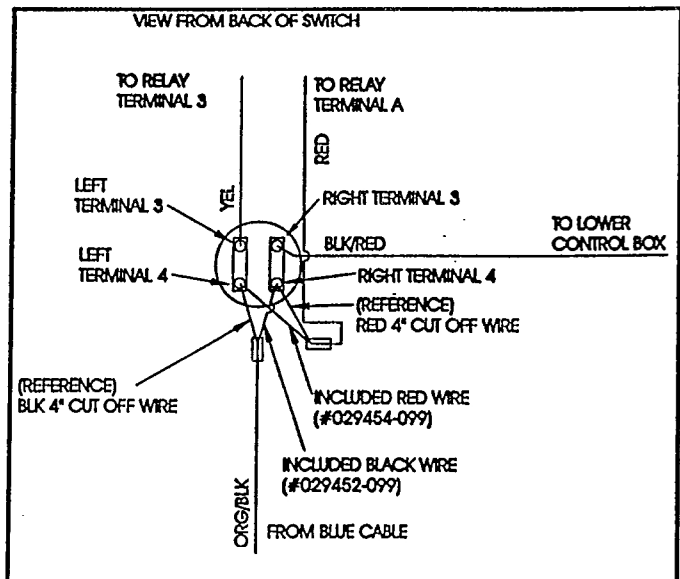

Figure 5
4. Cut off the blue cable org/blk wire 4 inches from the end of the terminal. Figure 5.
5. Prepare the ends of the included black wire (#029452-099). Using the large butt connector (#029620-003), connect this wire and the 4 inch cut off wire to the end of blue cable org/blk wire. Figure 5.
6. Fix the org/blk wire to terminal 4 on left contact block and fasten the black wire to terminal 4 of the right contact block. Figure 5.
8. Prepare the ends of the included red wire (#029454-099). Butt connect one end of this wire and the 4 inch cut off wire to the end of the red wire that connects to terminal 4 on the relay using large butt connector (#029620-003). Figure 5.